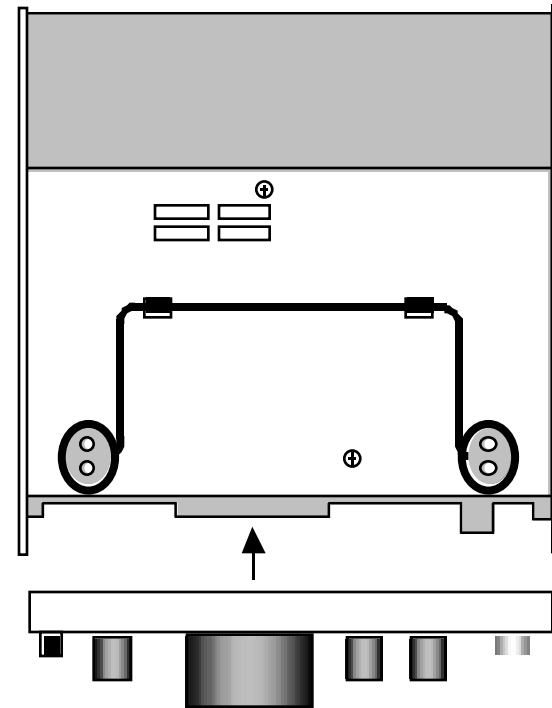

Figure 6-10
- Position the bottom cover as shown in Figure 6-10, then secure it using six chassis screws. (The heat sink and rear feet will not be installed until Part III when the transmitter is assembled.)
- With the entire assembly still upside down or resting on one side panel, plug the front panel assembly into the RF board (Figure 6-10). Align the two assemblies so that connector J1 on the bottom of the front panel PC board mates with P1 on the bottom of the RF board. The arrow in Figure 6-10 shows the approximate location of P1 on the RF board.